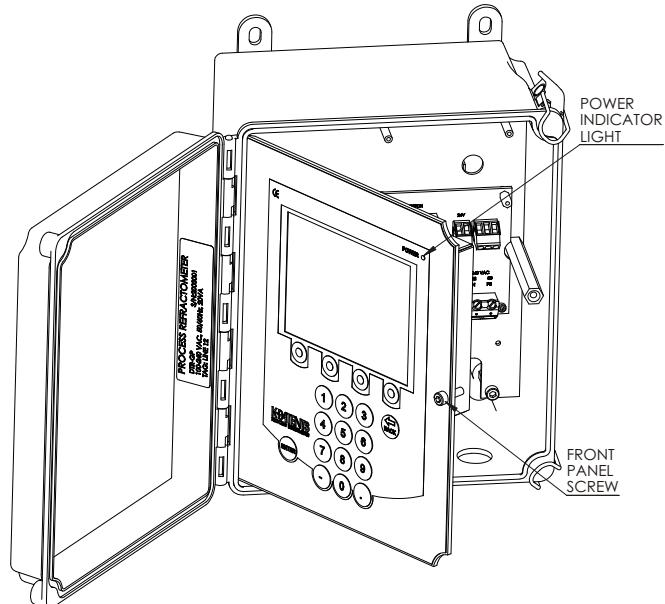
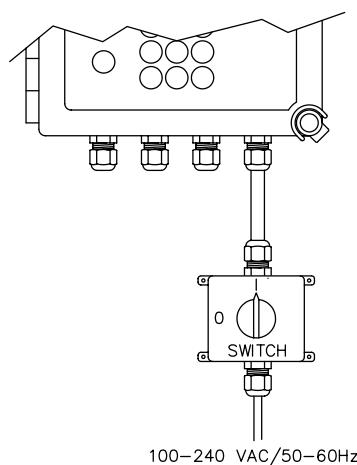

Figure 3.5 Opening the Front panel of the Indicating transmitter
Figure 3.6 The recommended external power switch
Important: The DTR does not have a built-in power switch. The system is always powered on when connected to a power source. K-Patents recommends mounting an external power switch to control the DTR's power supply, Figure 3.6.
All the electrical terminals of the Indicating transmitter are behind the Front panel. To access them, first open the enclosure cover. Then loosen the front panel screw (Figure 3.5) and swing open the Front panel. All terminals are now accessible.
If the *green power indicator light* (Figure 3.5) is on, there is still power in the system. To completely turn off the power, unplug the power supply cord or switch it off with an external power switch, if installed (see Figure 3.6).
31 32 33	Power, L (31), N (32), protective earth (33), 100-240 V AC, 50-60 Hz. An external power switch (Figure 3.6) is recommended.
2. Connect the power. The **Power indicator light** (Figure 3.5) and the screen should light up within a few seconds.